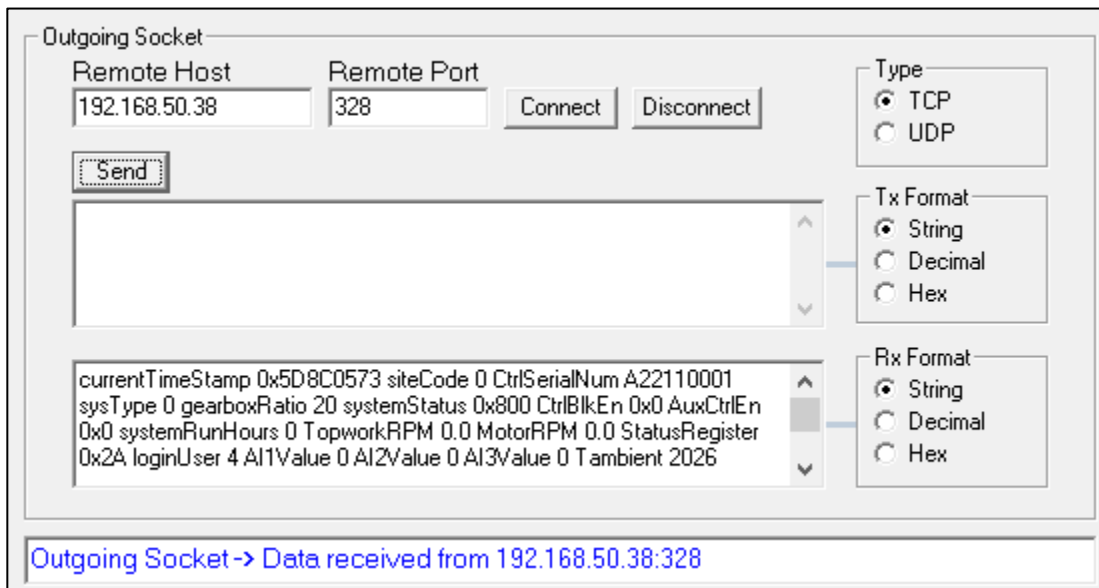

Figure 14: Data output from Socket Master
- All of the data from a single poll will now appear in the text box below (figure 14)